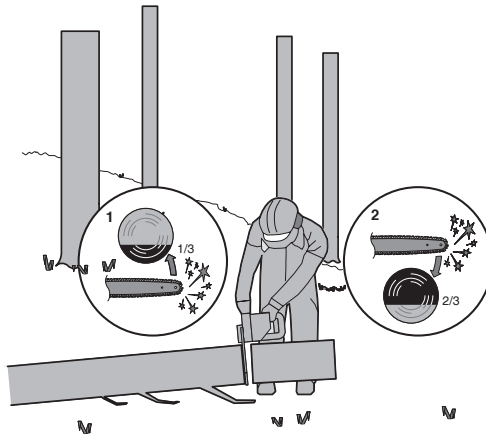

Figure 4
When the log is supported on one end, as illustrated in Figure 4, cut  $\frac{1}{3}$  the diameter from the underside (underbuck) (1). Then make the finished cut by overbucking (2) to meet the first cut.